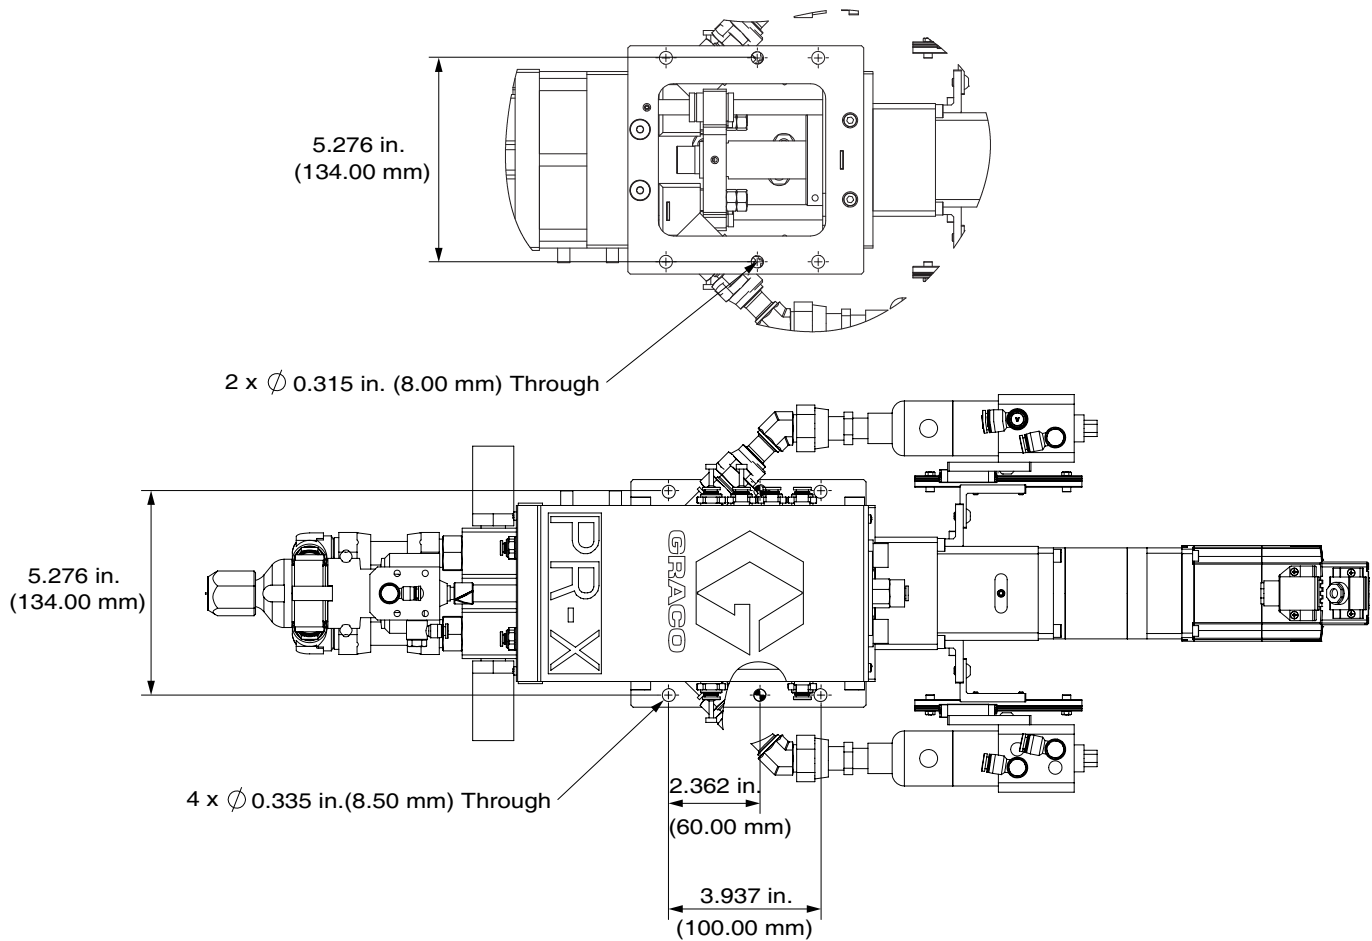
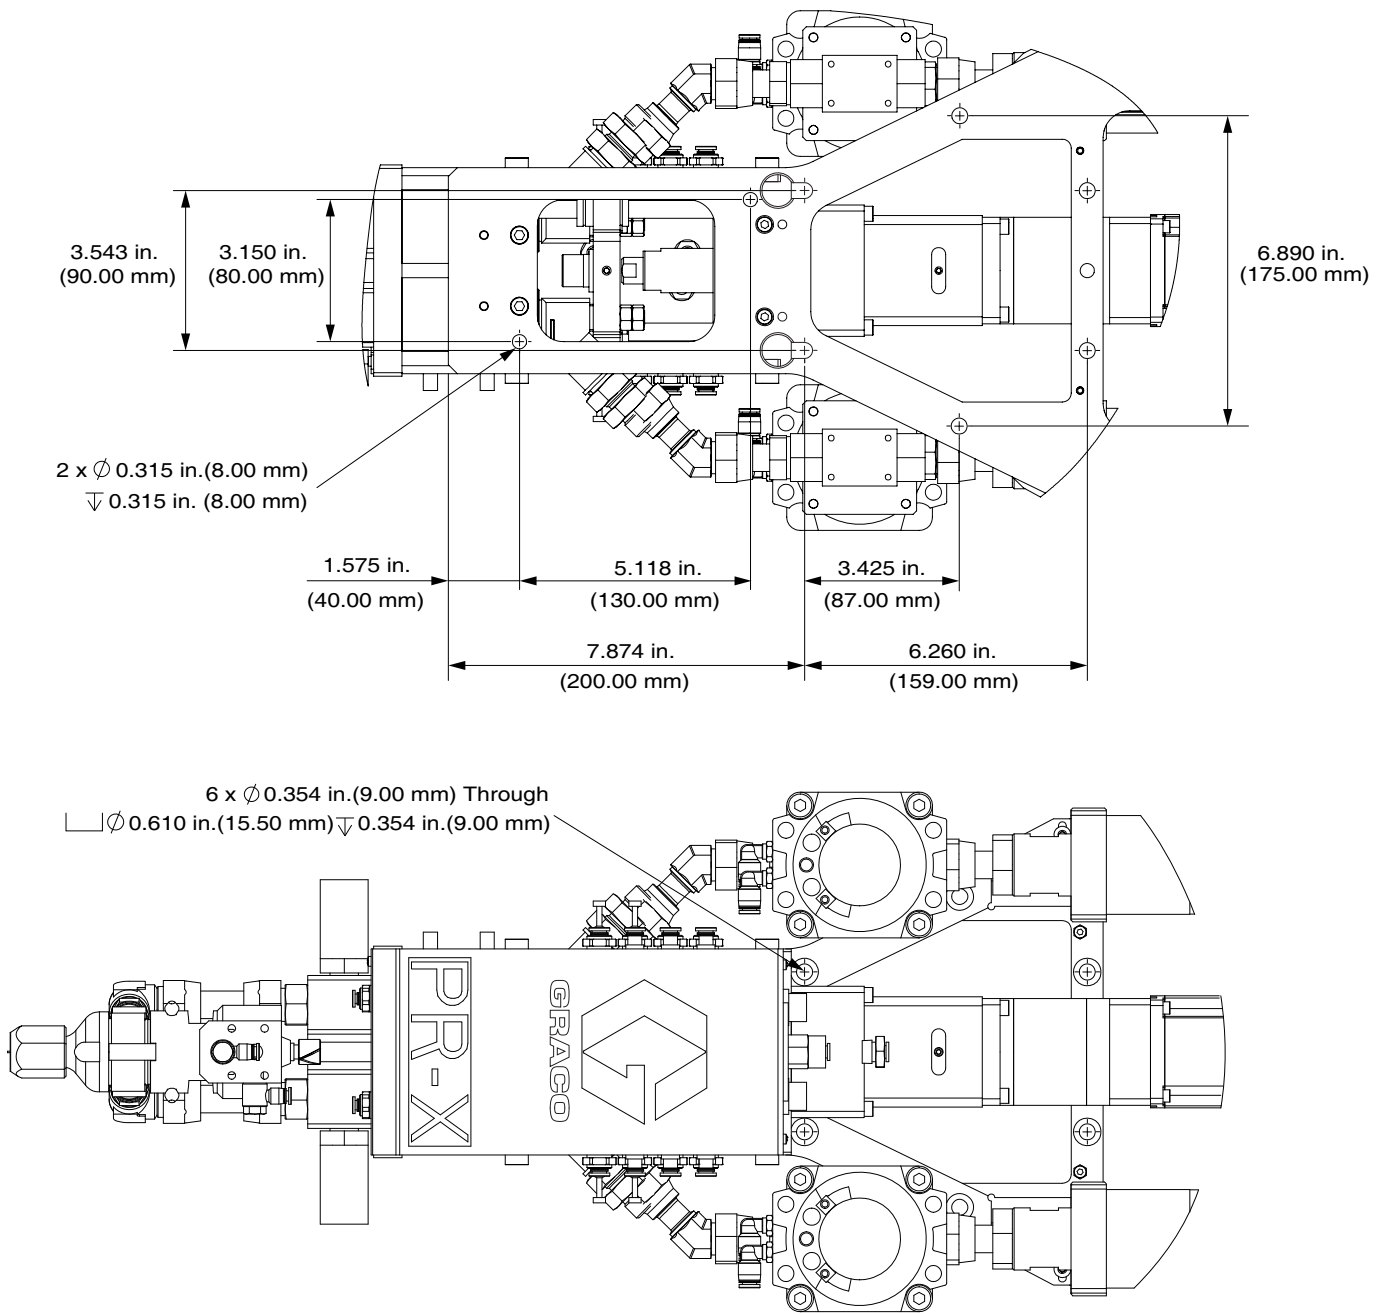

FIG. 6: Mounting Hole Dimensions for Installing the PR-X Machine - Supply Pump Feed
FIG. 7: Mounting Hole Dimensions for Installing the PR-X Machine - Cartridge Feed
1. The PR-X Machine (H) can be directly mounted on a Customer Robot (M) or remotely mounted on a motion table or table top. Verify the location has access to compressed air and AC power.
2. Place the PR-X Machine (H) onto the designated location.
3. Attach the PR-X Bottom Plate (AK) to the selected location by installing fasteners (not provided with the PR-X machine) through the four mounting holes. There are also two position pin holes. Refer to FIG. 6 or FIG. 7 for mounting hole dimensions.